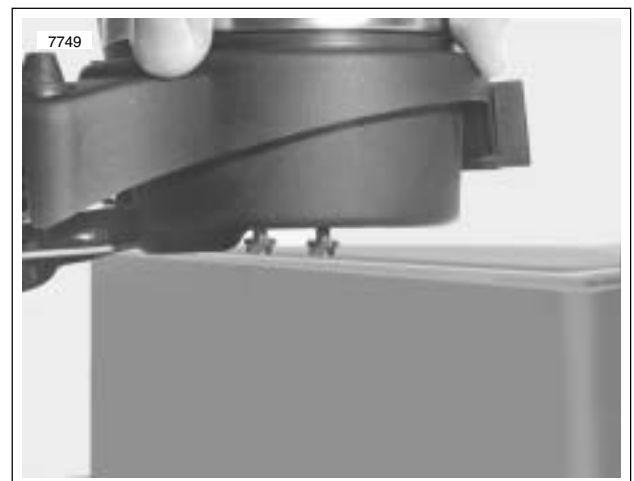

Figure 7-82. Removing Speedometer
- c. See Figure 7-82. Position dash and speedometer on edge of hard surfaced bench and apply even pressure to dash to open a gap between the speedometer and dash.